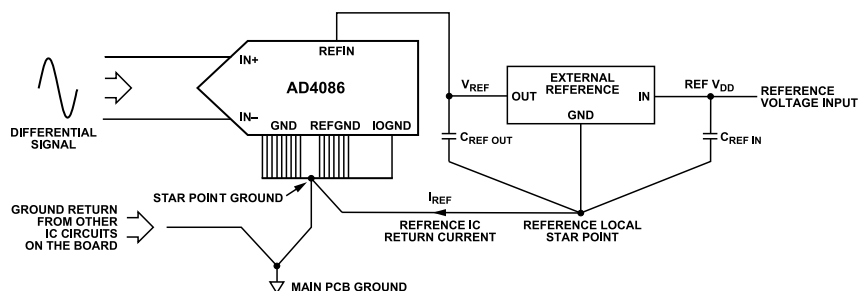

Figure 103. AD4086 External Reference Ground Connections
- ▶ Recommended connections of ground (GND), reference ground (REFGND), and digital ground (IOGND) connections are shown in Figure 103. It is recommended to not keep the current return path of the reference IC in the same current loop as the current return loop from the other circuitry on the PCB. Connect the reference local star point to the ADC star point ground on the top layer of the PCB as shown in Figure 103.